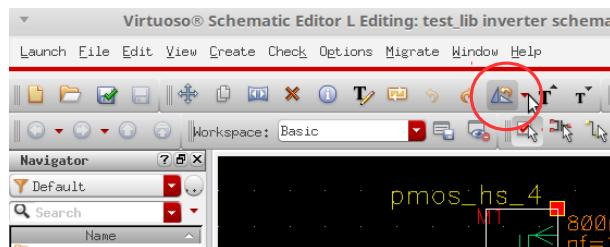

Figure 11: Rotate a component
6. You may also want to rotate the symbol (useful when drawing the schematic of current mirrors or differential pairs). In that case, select the component you wish to rotate, click on the arrow next to the "rotate" button in the toolbar (see Fig. 11) and select the rotating option that suits best in your case: